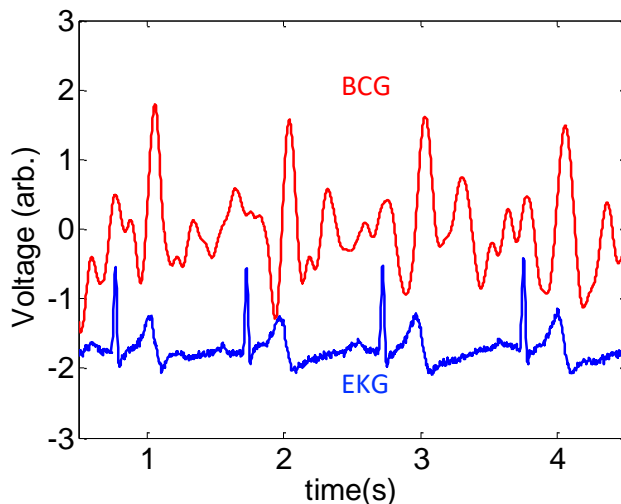

Figure 1: Comparison of EKG (blue) and BCG (red) signal. Note the regular correlation between the second hump of the EKG signal and the impulse from the BCG.
2. A good clean BCG trace, similar to what is shown in Figure 1.
Such an instrument is known as a ballistocardiograph (BCG). Since the measurement is so sensitive, we can do a simultaneous EKG which will help us identify and correlate the two signals, shown below in Figure 1. (In today's lab, you'll measure the EKG by feeling your pulse with your finger).